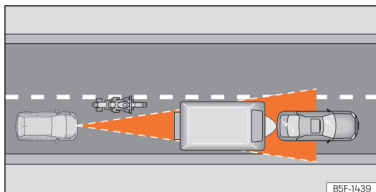

Fig. 118 Motorcyclist ahead out of range of the radar sensor.
- Vehicles that are not aligned while driving or that are outside the sensor's detection area, such as motorcycles »» **Fig. 118**.